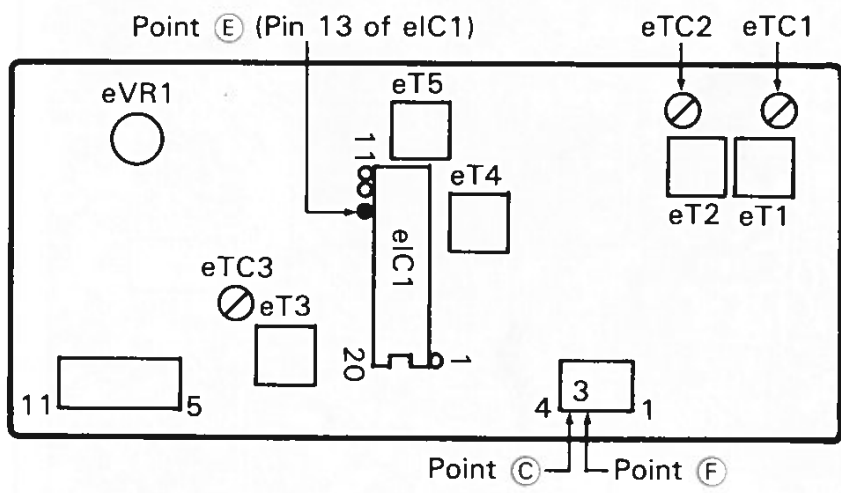

Fig. 5-11 G-2004 AM Board for GT-X7000L
2) AM (MW) Tuning & Reference Frequency Adjustment For GT-X7000L (See Fig. 5-11 on page 20.)
3) LW Tuning Adjustment For GT-X7000L (See Fig. 5-11 on page 20.)